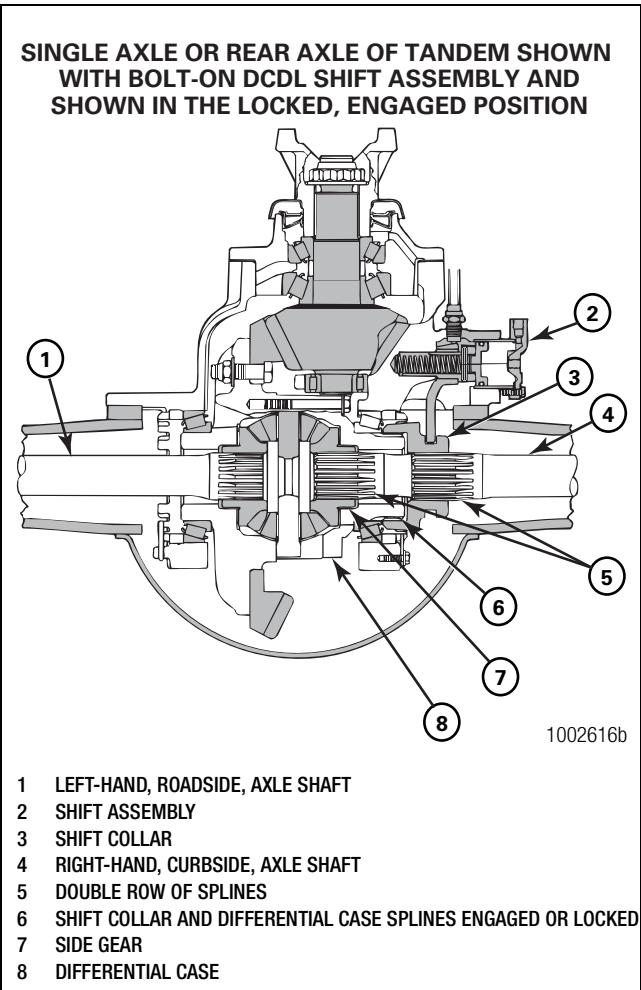

Figure 11.10
5. Install the axle shaft(s) indicated in Table AM. Axle shafts with a DCDL have a double row of splines that engage with the splines of the side gear and shift collar in the differential case. Figure 11.10. Continue with Step 6.